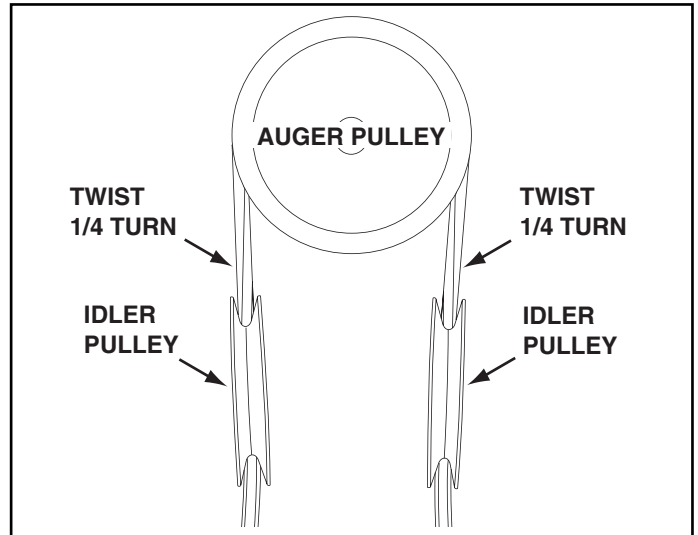

FIGURE 22 VIEWED FROM REAR
- Make sure the auger belt is correctly assembled to the snow thrower. The belt must pass over the top of the auger pulley and then twist 1/4 turn to pass underneath the two side idler pulleys on the snow thrower. The "V" side of the belt must seat in the grooves of all three pulleys. See figure 22.